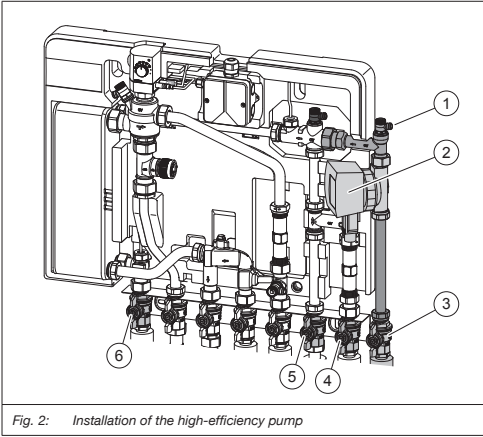

Fig. 2: Installation of the high-efficiency pump
(1)	Venting valve
(2)	High-efficiency pump Wilo STAR-Z NOVA
(3)	Ball valve circulation pipe
(4)	Ball valve cold water supply
(5)	Ball valve cold water outlet
(6)	Ball valve hot water outlet
- Close the ball valves (3), (4), (5) and (6) (see Fig. 2).
- Open the venting valve to depressurise the section of the system (see Fig. 2 (1)).
The arrow on the body indicates the flow direction. Install the pump in such a way that the arrows point to the venting valve (see Fig. 2 (1)).